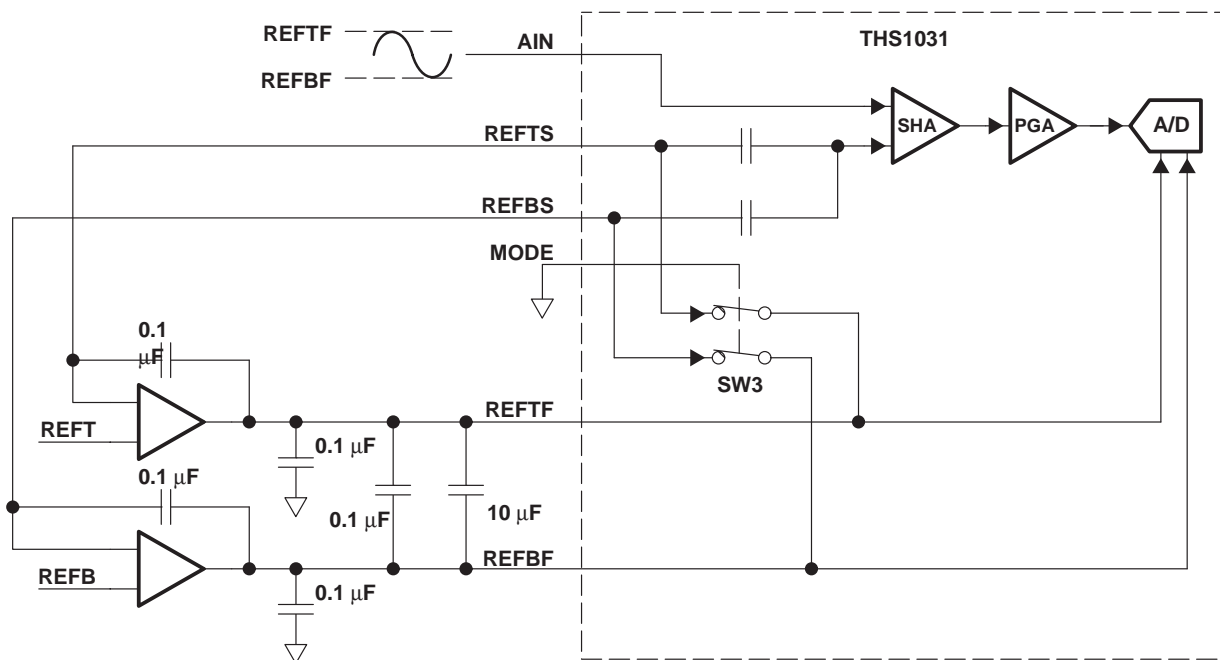

Figure 16. Kelvin Connection With External ADC Reference Mode
- **External ADC Reference Mode:** A single-ended analog input is accepted at the AIN pin where the input signal is bounded by the voltages on the REFTS and REFBS pins. Figure 15 shows an example of applying external reference to REFTS and REFBS pins in which REFTS is connected to the low-impedance 2-V source and REFBS is connected to the low-impedance 2-V source. REFTS and REFBS may be driven to any voltage within the supply as long as the difference  $(REFTS - REFBS)$  is between 1 V and 2 V as specified in Table 2. Figure 16 shows an example of external-reference using a Kelvin connection to eliminate line voltage drop errors.